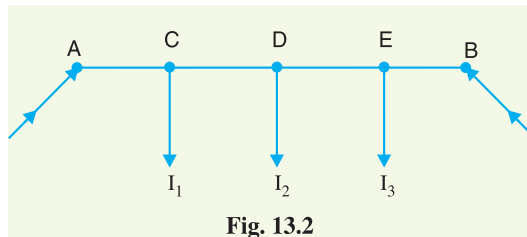

Fig. 13.2
- (ii) **Distributor fed at both ends.** In this type of feeding, the distributor is connected to the supply mains at both ends and loads are tapped off at different points along the length of the distributor. The voltage at the feeding points may or may not be equal. Fig. 13.2 shows a distributor AB fed at the ends A and B and loads of I_1 , I_2 and I_3 tapped off at points C , D and E respectively. Here, the load voltage goes on decreasing as we move away from one feeding point say A , reaches minimum value and then again starts rising and reaches maximum value when we reach the other feeding point B . The minimum voltage occurs at some load point and is never fixed. It is shifted with the variation of load on different sections of the distributor.